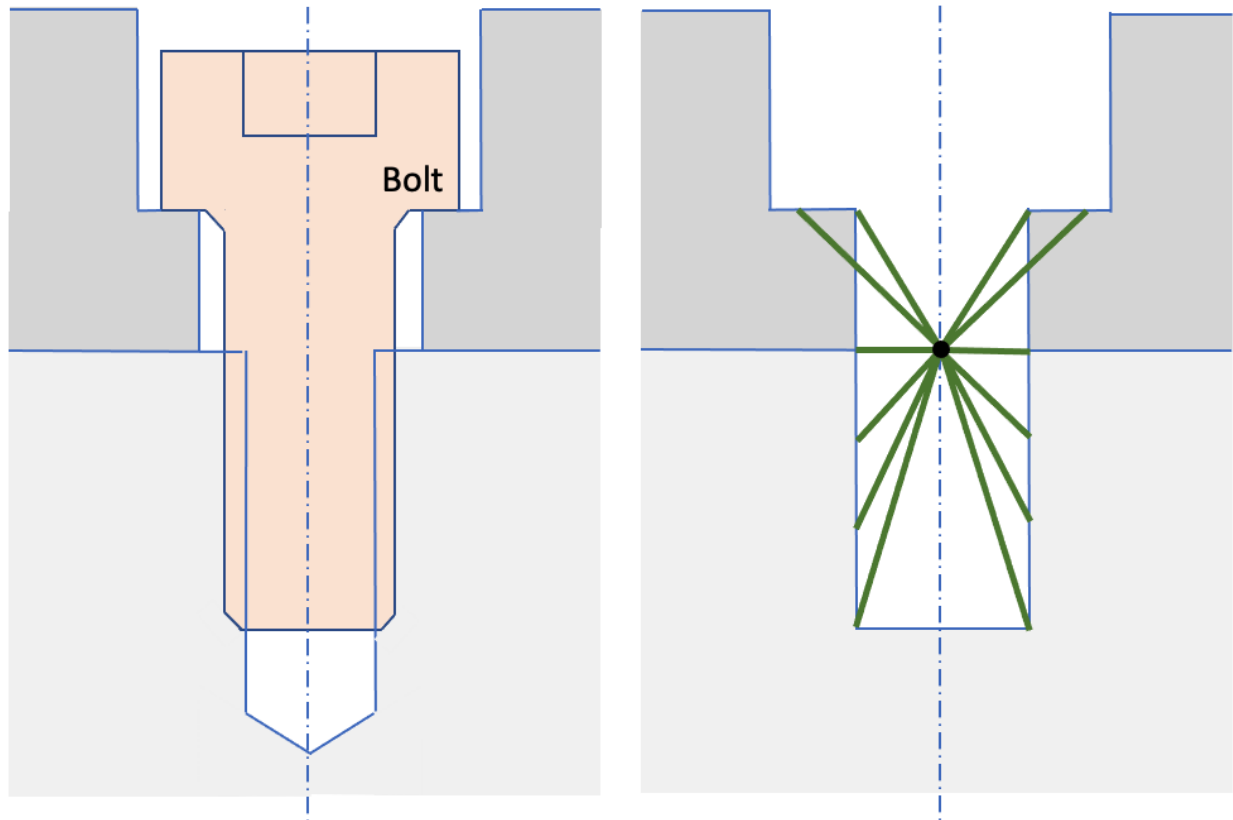

Figure 3. Example before and after of the Reduce Bolt Spider Countersink command
3. **countersink:** Shown in figure 3., similar to the **j2g** option, however beam elements are also generated connecting the outer radius of bolt with the center rebar node.